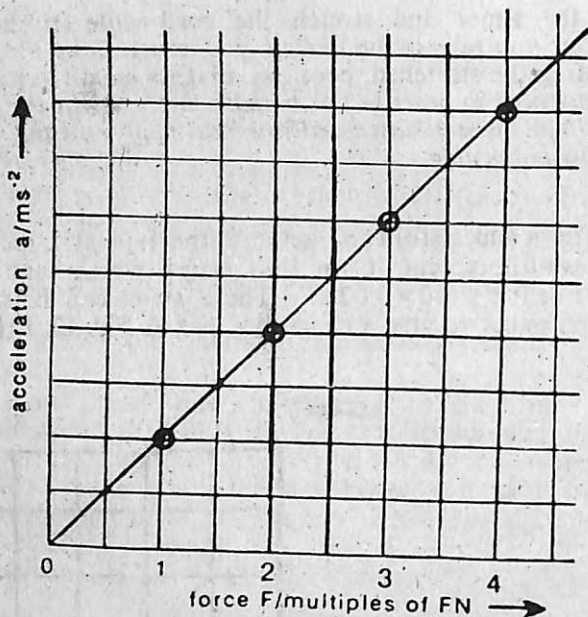

Fig. 12.4. A graph of acceleration against the force applied to the trolley.
7. Plot a graph of ' a ' against ' F '. It should be a straight line passing through the origin as shown in Fig. 12.4.